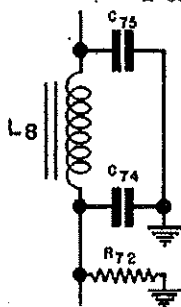

Fig. 30
- (4) Tube V₁₀ is a tube VT-80 (commercial type 80) which rectifies the high voltage supplied by transformer T₁₃ to furnish plate power for the receiver tubes.
- (b) The rectified power is connected to a set of normally open contacts in relay RY₄ and filtered by capacitors C₇₄ and C₇₅ and by filter choke L_B. C₇₄ and C₇₅ are transposed in SCR-543-C (SCR-543-B on order No. 32780-PHILA-43 also) See Fig. 30. Resistor R₇₂ acts as a bleeder resistor to assist in maintaining a constant voltage and to drain off any voltage remaining when the plate power is removed.